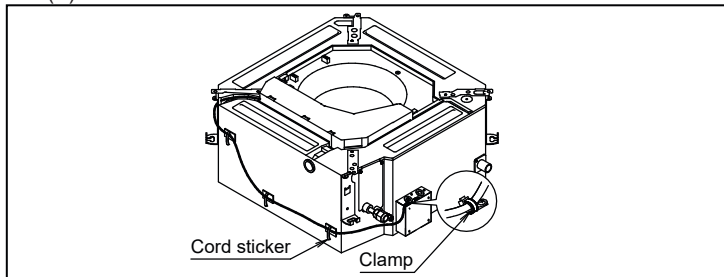

Figure 8a
- Clamp wires by using the cord sticker (accessories) and the clamp (accessories) as shown in the Figure 8a, 8b, 8c and 8d.